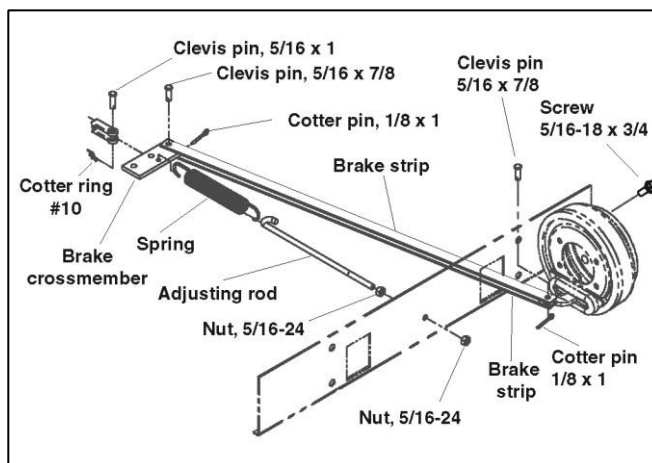

Figure 7-3
2. Remove upper and lower mounting bolts and nuts securing shock absorber (Figure 7-3).
3. Slowly lower the rear carrier/axle assembly until springs can be removed (Figure 7-3).
6. See Figure 7-3. Remove cotter pins and clevis pins. Disconnect brake strips from brake assemblies on the rear axle. Remove screws and rear brake drums.